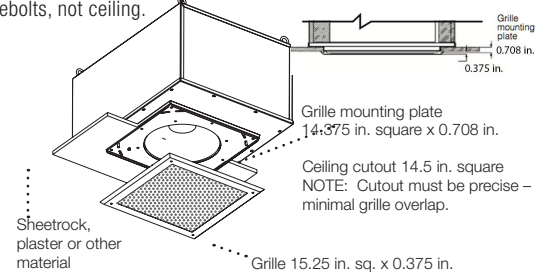

Fig. 3: Typical Wiring
1. **TYPICAL WIRING METHOD** (Fig. 3):